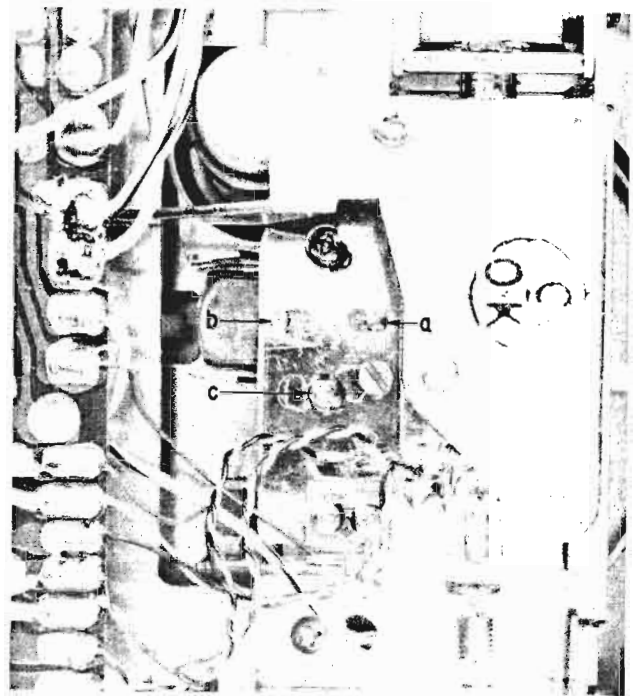

Fig. 8
- 2) Playback Program 3 of an 8,000 Hz pre-recorded Tape and adjust Screw "c" shown in Fig. 8 so that the V.T.V.M. indication is maximum.
- 2) Playback Program 2 of *Test Tape and adjust Screw "d" shown in Fig. 8 so that the V.T.V.M.* indication is minimum.
- 4) The adjustments outlined in items 2) and 3) above will result in ideal head height position and minimize cross-talk.